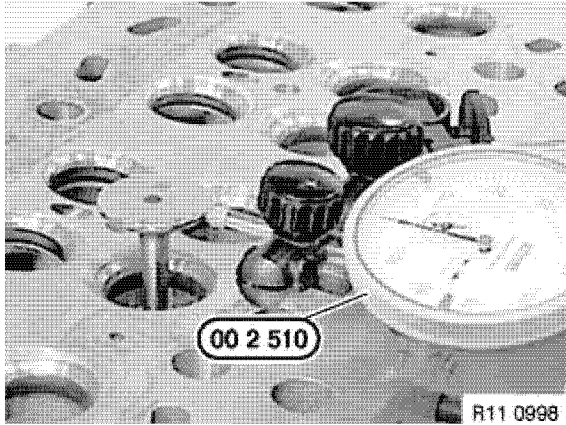

Figure 5-28
2. Install dial indicator OEM No. 00 2 510 or similar as shown (Figure 5-28).